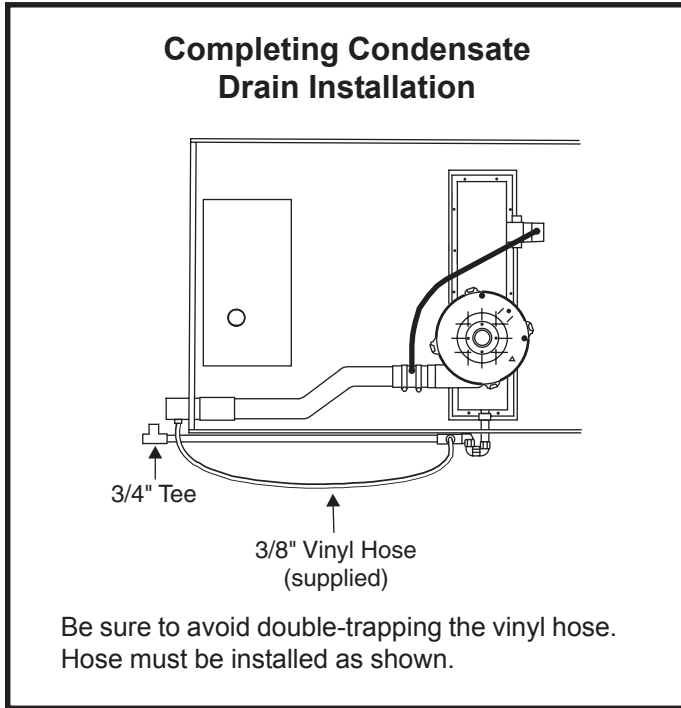

Figure 21
- Connect a length of 3/4" PVC pipe (3' minimum) to the trap assembly (see Figure 21).
- Install 3/4" tee (supplied) as shown in Figure 21.